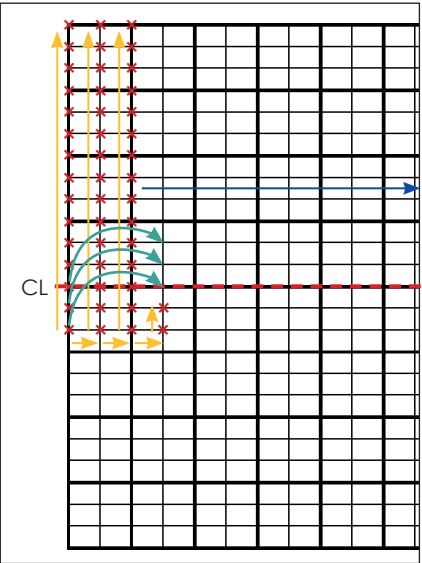

Figure 45: Use Jigs for XY Axis Seam Adjustment
- 4. Install jigs in the first column from the starting point upward to the top of the display. Refer to **Figure 45**.
- 5. Install a second column of jigs from the starting point upward to the top of the display. Refer to **Figure 45**.
- 6. Install a third column of jigs from the starting point upward to the top of the display. Refer to **Figure 45**.
- 7. Install two jigs in the fourth column of the display at the starting point. Refer to **Figure 45**.
- 8. Move the jigs from the first column to the fourth column, working from the starting point upward to the top of the display. Refer to **Figure 45**.
- 9. Use **Steps 4-8** to continue across the display. Refer to **Figure 45**.